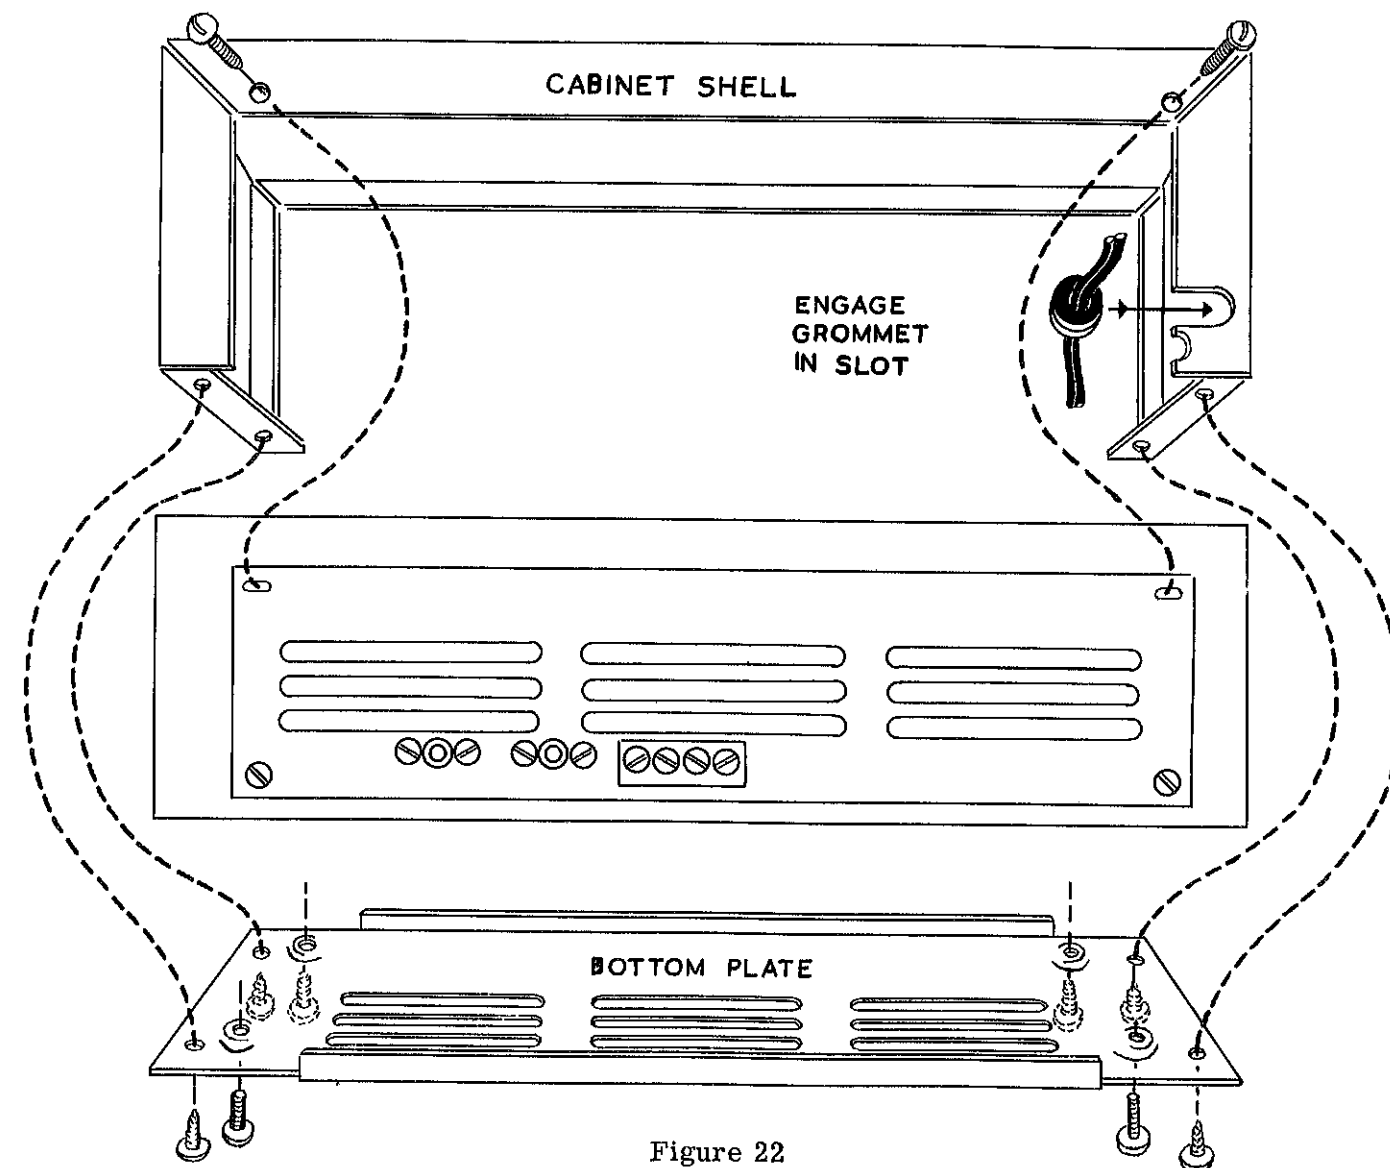

Figure 22
- ( ) With the cooling vents to the rear, install the bottom cover as shown in Figure 22, using 6-32 self-tapping screws at each dimpled opening.